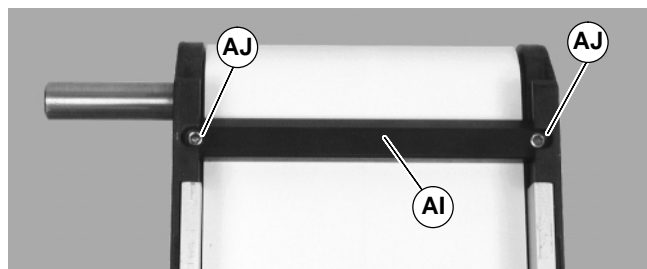

Figure 36
13. If equipped, re-install bottom wipers (AI of Figure 36): Install wiper (AI) then install screws (AJ).